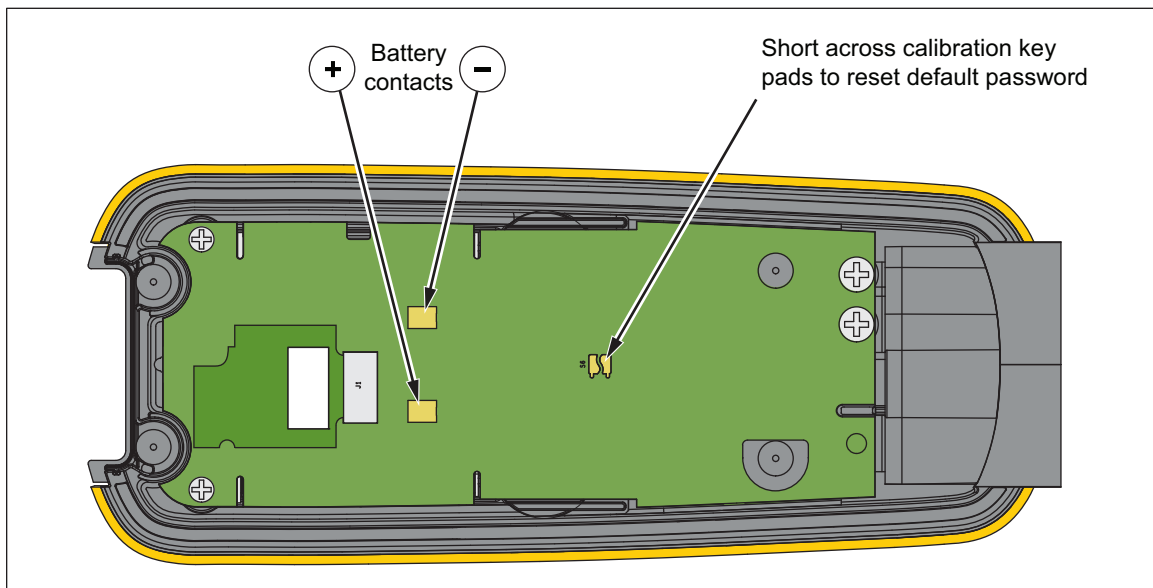

Figure 4. Calibration Password Reset
4. Apply 3.0 V across the battery contacts on the pca. Note the polarity that is shown in Figure 4.
5. Push ① on the front of the Product.
6. Short across the CAL keypad on the pca. See Figure 4. The default password is now restored.